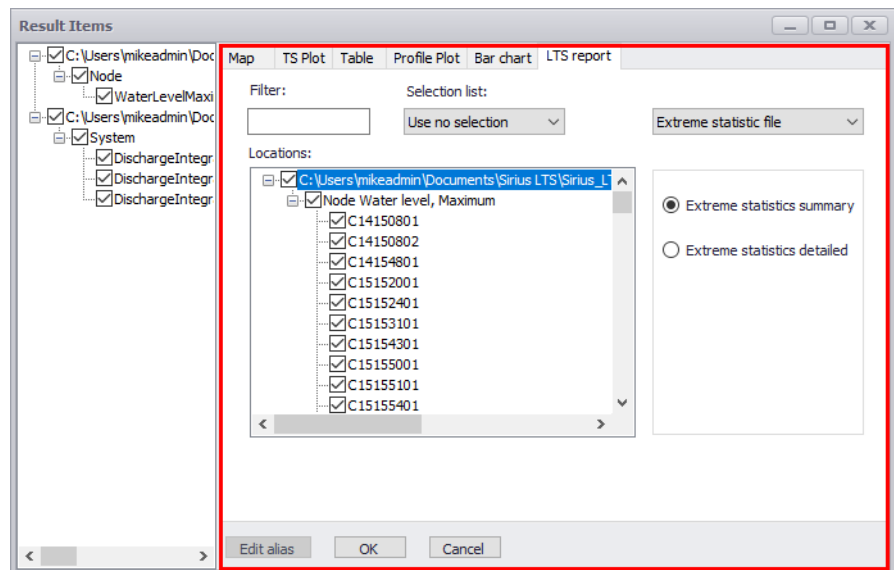

Figure 20.70 The LTS Report tab on the Result Items dialog
LTS statistics reports can be generated through the LTS Report tab on the Result Items dialog (Figure 20.70). The following types of LTS Reports could be generated:
- Access the ‘LTS Report’ tab on the ‘Result Items’ dialog (Figure 20.70).